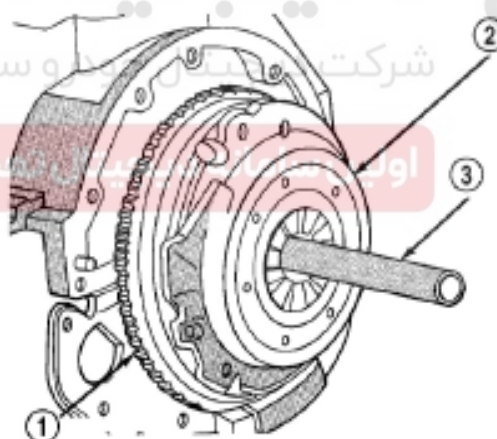

Figure 3-8 Typical method for aligning clutch disk
- (8) Align the clutch disk against the flywheel center (Figure 3-8) with clutch aligning tool.